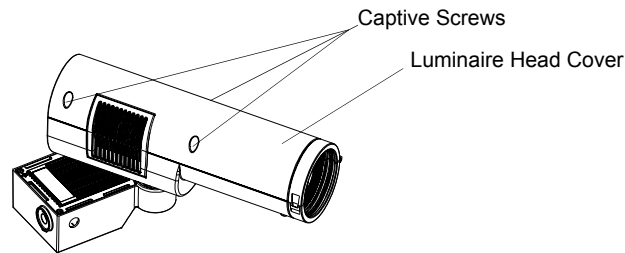

Figure 5: PL1 LED Luminaire Head Cover
- Step 4. At luminaire head cover (as shown in **Figure 5**), using 3 mm Allen hex key, completely loosen three captive screws securing cover.